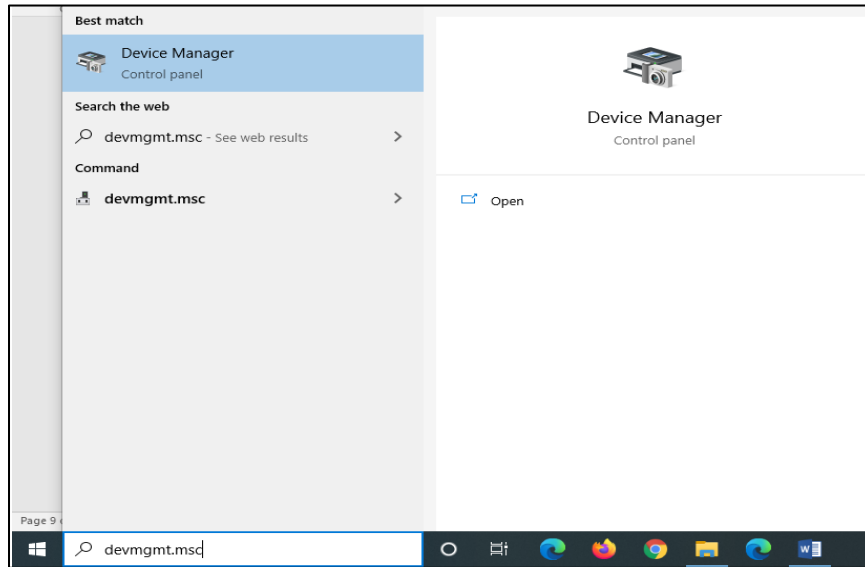
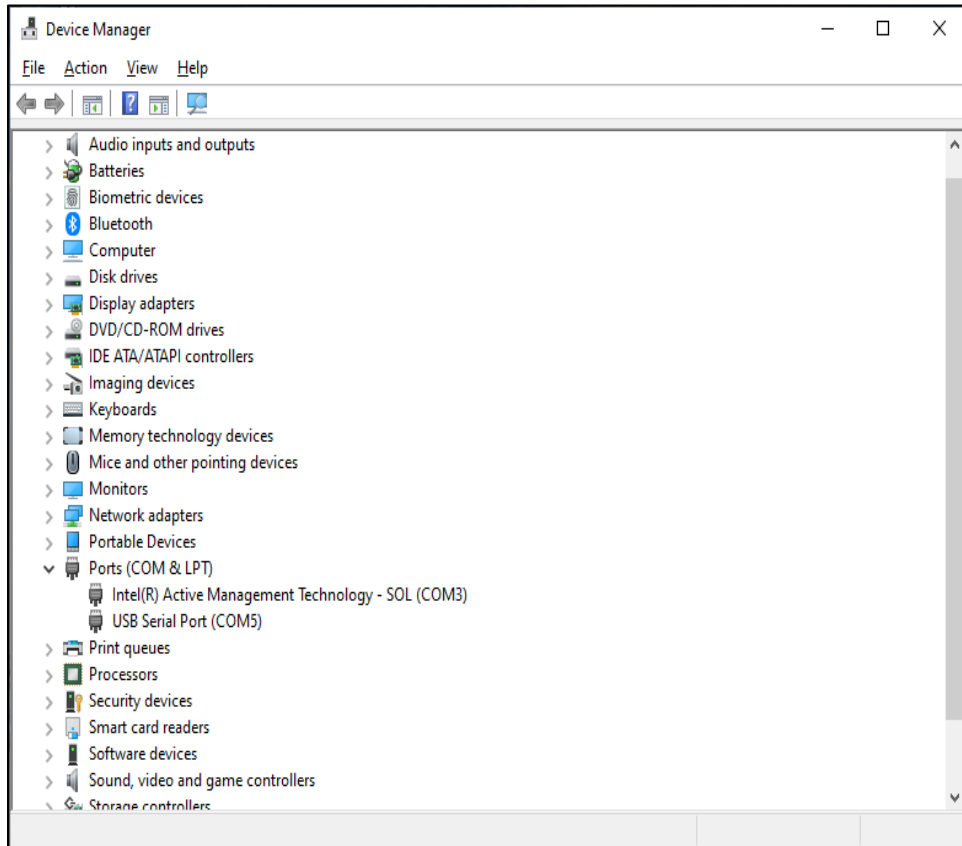
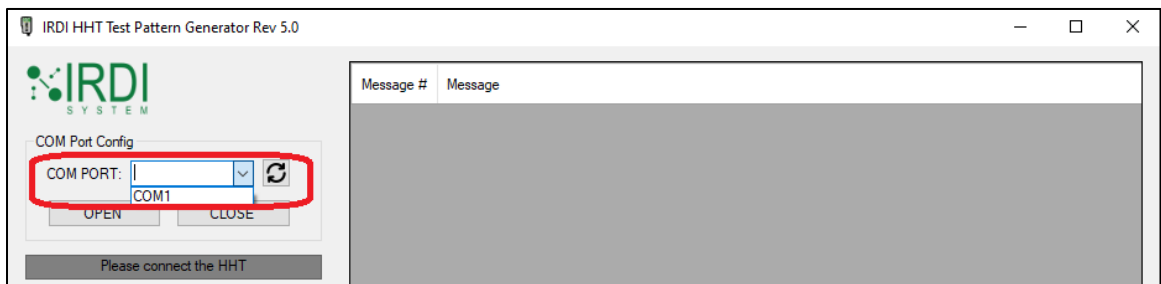

FIGURE 5-2 OPEN DEVICE MANAGER
FIGURE 5-3 VERIFY IN DEVICE MANAGER
FIGURE 6-2 REFRESH PORTS, SELECT A COMMUNICATION PORT
STEP 5	Device may appear in Device Manager with a yellow exclamation mark. If this happens, open Device Manager - see Figure 5-2. To verify– see Figure 5-3. Initiate the USB driver installation by right-clicking the USB device and selecting “> Update Drivers > Automatic? (Search Windows Update)”
STEP 3	Device may appear in Device Manager with a yellow exclamation mark. If this happens, open Device Manager - see Figure 5-2. To verify– see Figure 5-3. Initiate the USB driver installation by right-clicking the USB device and selecting “> Update Drivers > Automatic? (Search Windows Update)”.
STEP 4	Select the communications port in the “COM PORT” drop-down menu – see Figure 6-2. This port should correspond to the IRDI Transmitter found in Device Manager (see Figure 5-3).